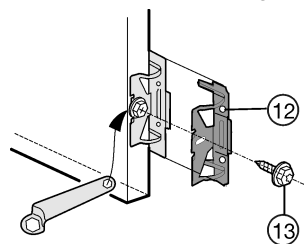

Fig. 10
- ▶ Screw all the mounting brackets Fig. 10 (12) to the pre-drilled holes in the appliance door using hexagon screws Fig. 10 (13).